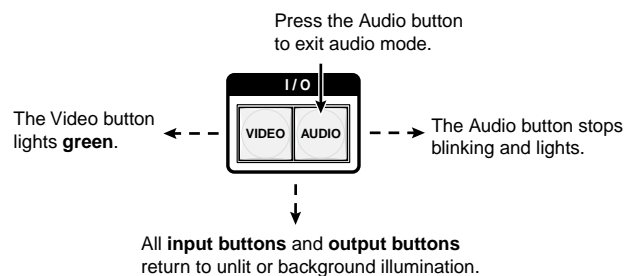

Figure 3-64 — Deselect Audio mode
5. Press and release the Audio button (figure 3-64).